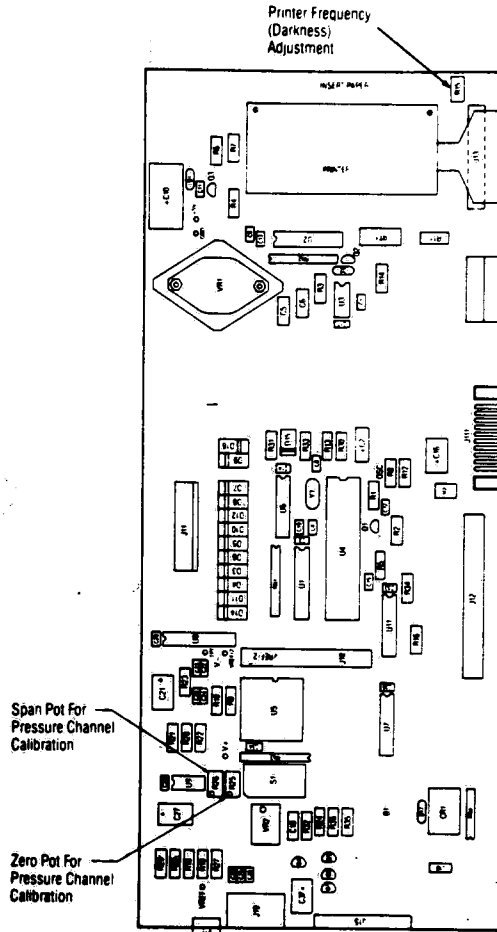

FIGURE 7-3 - Printer PC Board
3. Adjust R15 (accessible behind the platen) on the Printer PC board (Figure 7-3) while watching the display prompt: . .